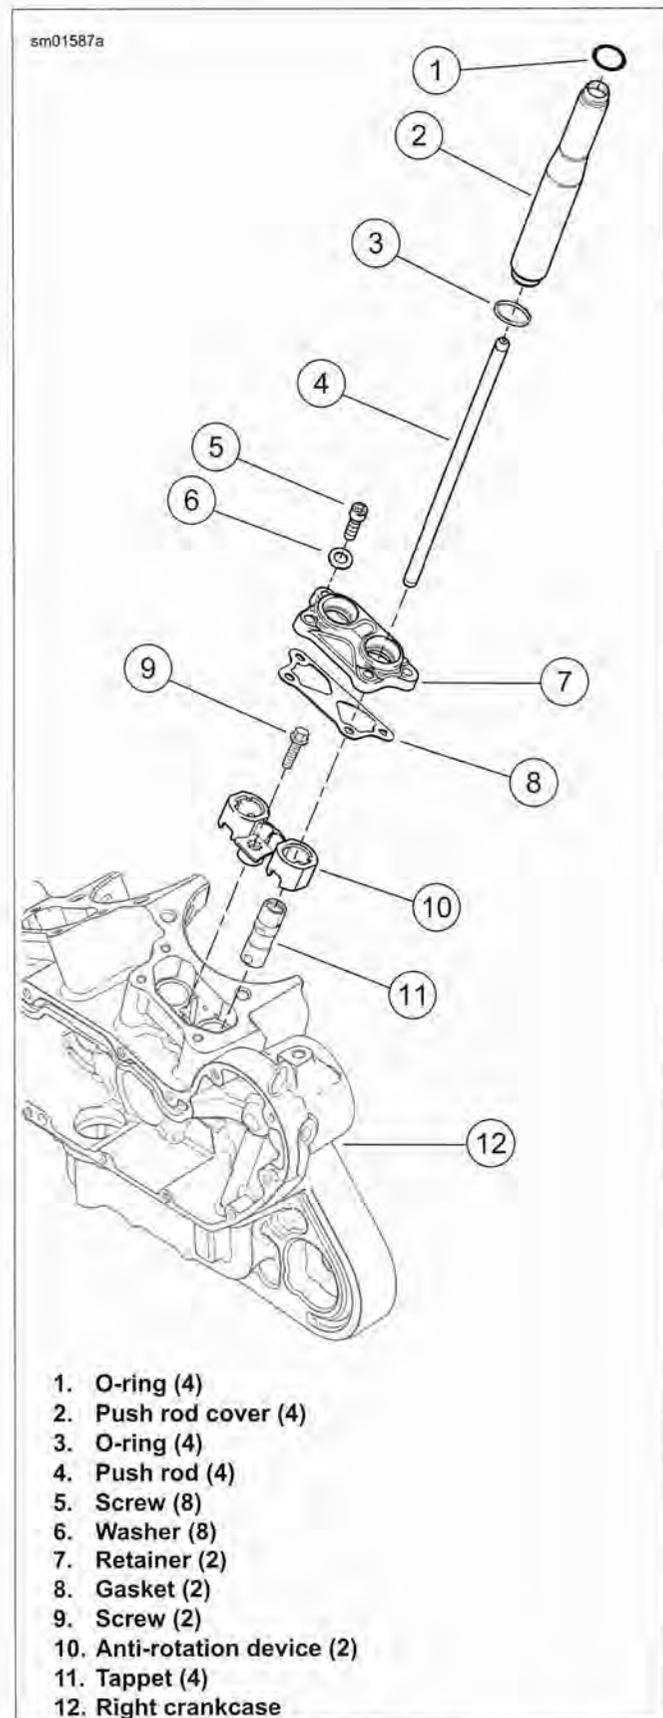

Figure 3-46. Middle Valve Train Components
1. See Figure 3-46. Remove push rod covers (2), O-rings (1, 3) and push rods (4). Mark the location and orientation (top and bottom) of each push rod. Discard O-rings.
2. Remove socket screws (5) and washers (6). Remove retainer (7) and gasket (8). Discard gasket.